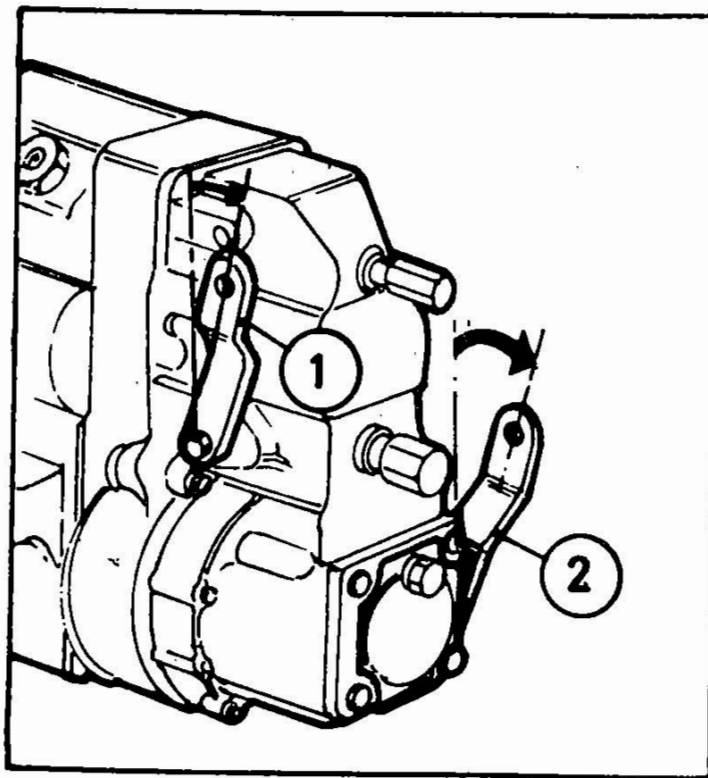

Fig.2.5
- Actuate shut down lever 2 until engine stops completely. (Fig. 2.5)